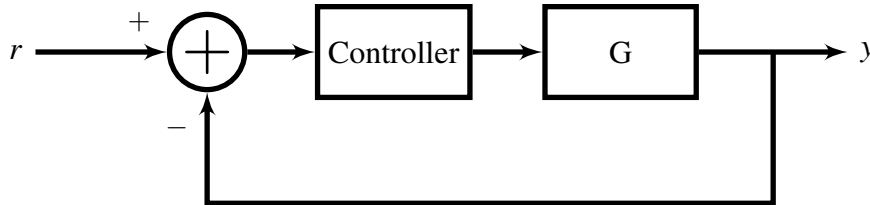

Figure 1: Simulation model for reference tracking.
In Figure 1, G can be replaced with G_{11} or G_{22} and the Controller can be replaced with the relevant controller.
- Figure 1: Transistor 1 reference and temperature reading ($^{\circ}\text{C}$) vs time.